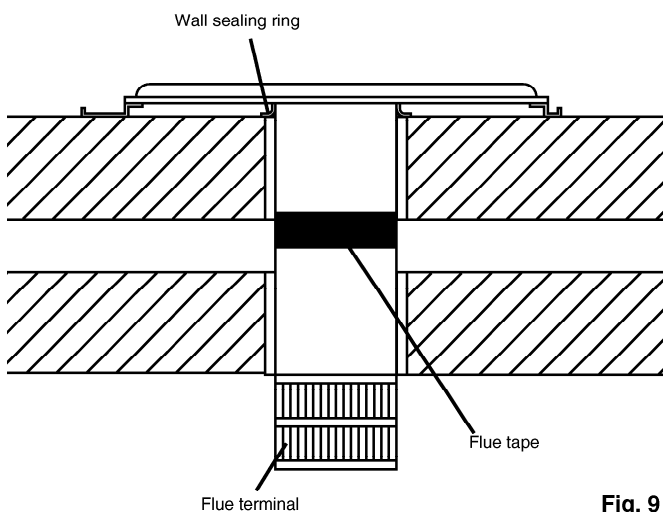

Fig. 9 (Top View)
4. Ensuring that the appliance is level, secure it to the wall using four suitable screws and washers. Check that the wall sealing ring is correctly positioned and seals against the wall (Fig. 9).
5. Ensure that the flue terminal protrudes sufficiently on the outside wall face (Fig. 9). Make good as appropriate.